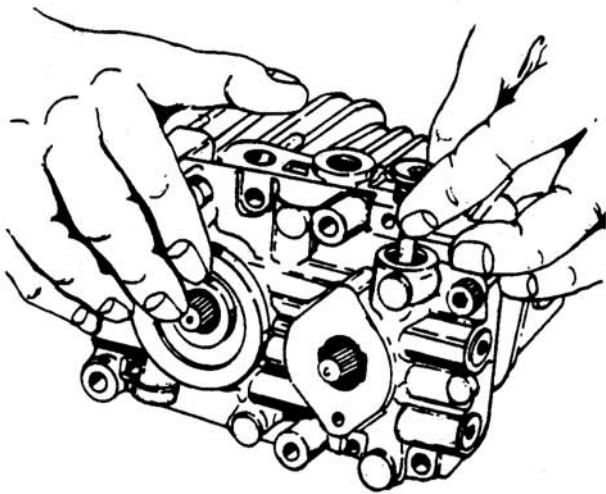

Figure 6-71. Installing Ball, Spring and Plug
- b. Install ball, spring and plug. See Figure 6-71.